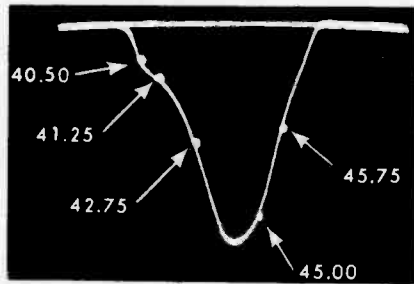

Fig. 9 Overall Response with Zero Bias for adjusting the 40.5 Mc Trap.
10. Switch oscilloscope to position used in Step 8. Remove the bias battery and ground the AGC. (In the 15Z31 chassis connect a jumper between "E" and the junction of the 56 and 1500 ohm resistors). Adjust signal generator to obtain a 3 volt peak to peak response similar to Fig.9 . Adjust the 2nd IF cathode trap for maximum displacement of the 40.50 Mc marker but not to exceed the displacement of the 41.25 Mc marker.